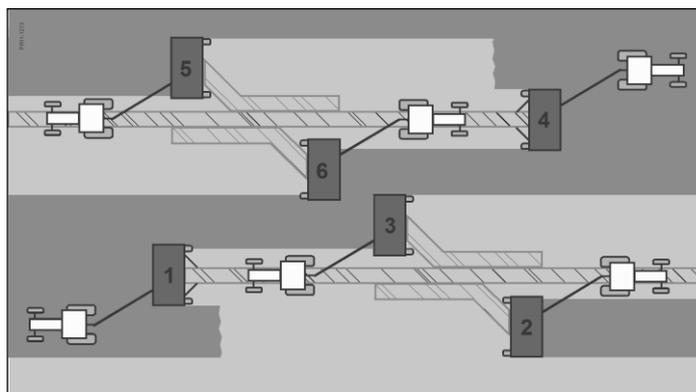

Fig. 3-2
Fig. 3-2 Drive into the uncut grass with the Collector lifted (1) leaving approx. 3 m uncut grass. Now lower the Collector into active position and cut the approx. 3 m you have just left (2). In order to finish the first triple swath make the final cut on the opposite side of the first swath (3).